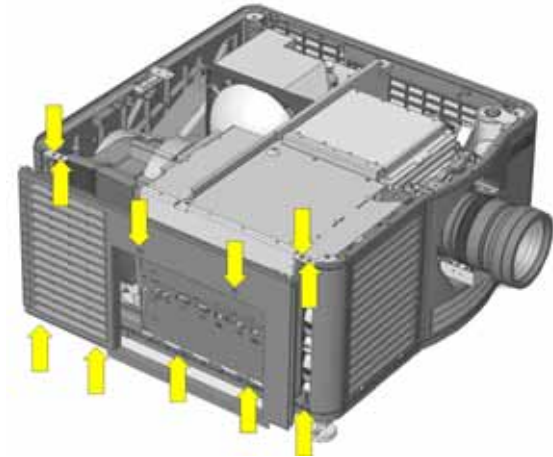

Figure 5-7 Remove Cardcage Panel
5. Use a 4mm hex key to remove the five socket head cap screws along the bottom edge of the skin (**Figure 5-7**).